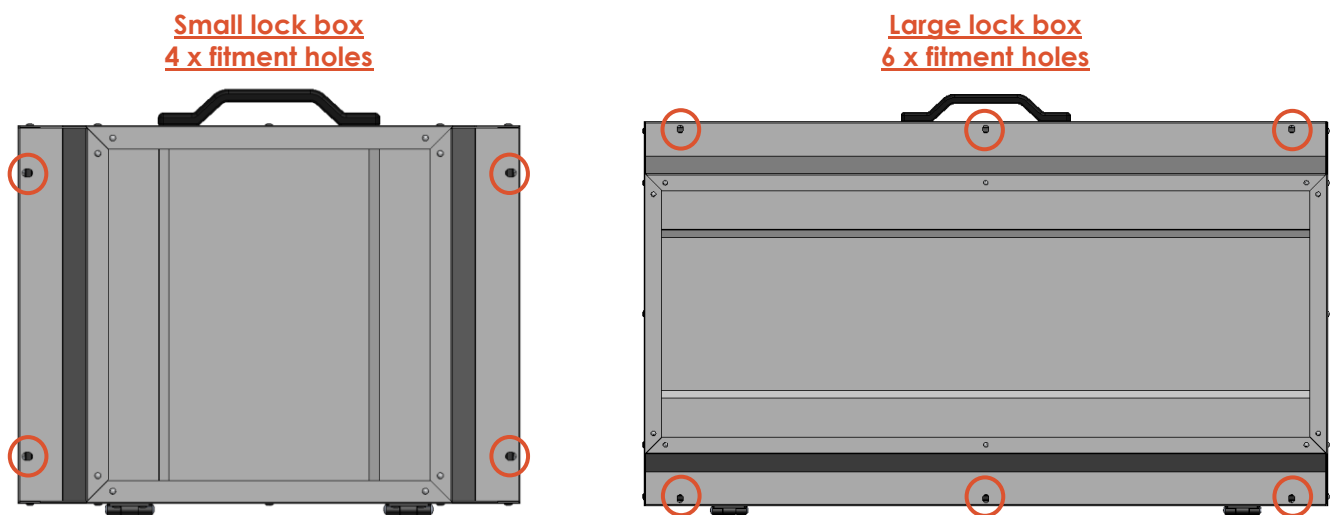

Fig. 2.3.1
- Familiarize yourself with the underside dedicated for the fitment screws. Fig. 2.3.1